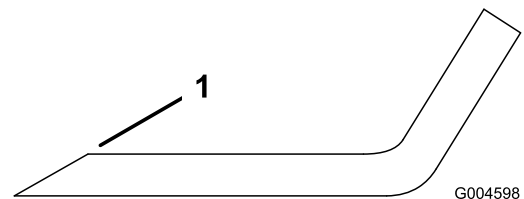

Figure 34
1. Use a file to sharpen the cutting edge at both ends of the blade (Figure 34). Maintain the original angle. The blade retains its balance if you remove the same amount of material from both cutting edges.